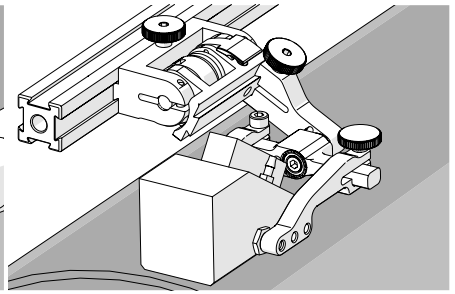

Fig. 97 - Spring loaded scan position
4. Gently lower probe holder and wedge to the scanning surface (Fig. 97).